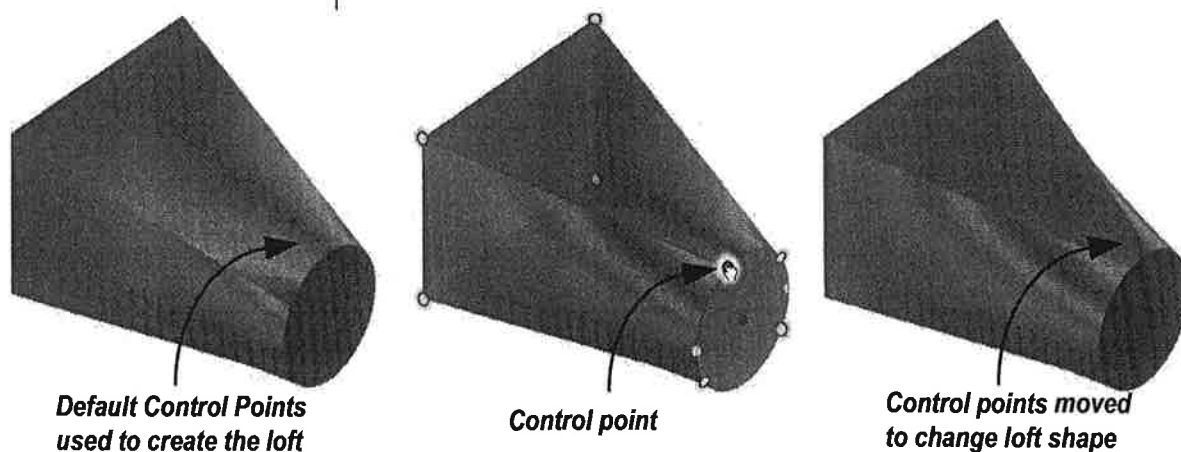

Figure 12-7
- Control points (white vertices) control how sections blend. Control points can be selected and moved to change loft geometry, as shown in Figure 12-7.